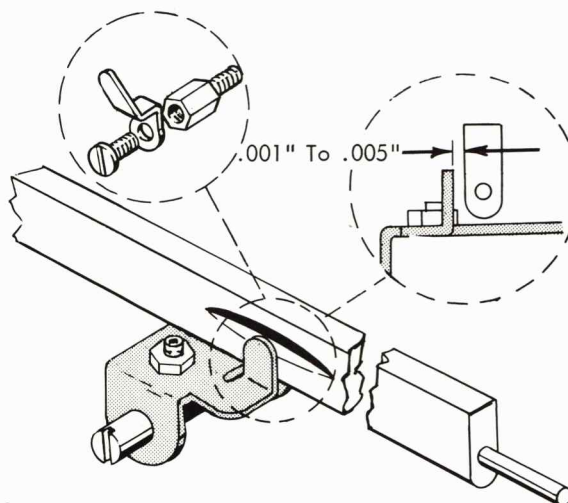

FIGURE 103. Torque Bar Backstop
4. Torque Bar Back Stop - Adjust the back stop forward or back on its mounting stud so that there is a .001" to .005" clearance with the torque bar (Fig. 103).